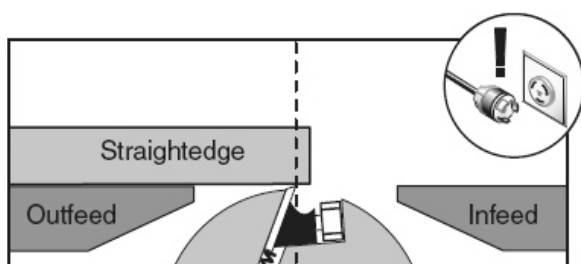

Figure 9. Using a straightedge to align outfeed
4. Raise or lower the outfeed table until the Knife (or carbide insert) just touches the straightedge (**Figure 9**).